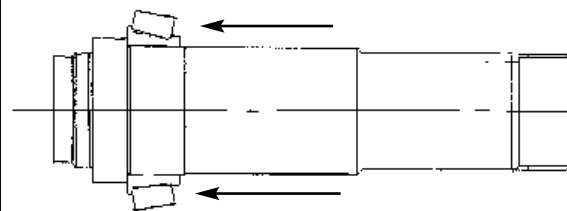

Figure 22
- USE GLOVES:** Heat only front inner races of bearings (5) and assemble onto the shafts (24 & 25) making sure they are pressed tight up against the shoulders and are the correct way round. (See figure 22)